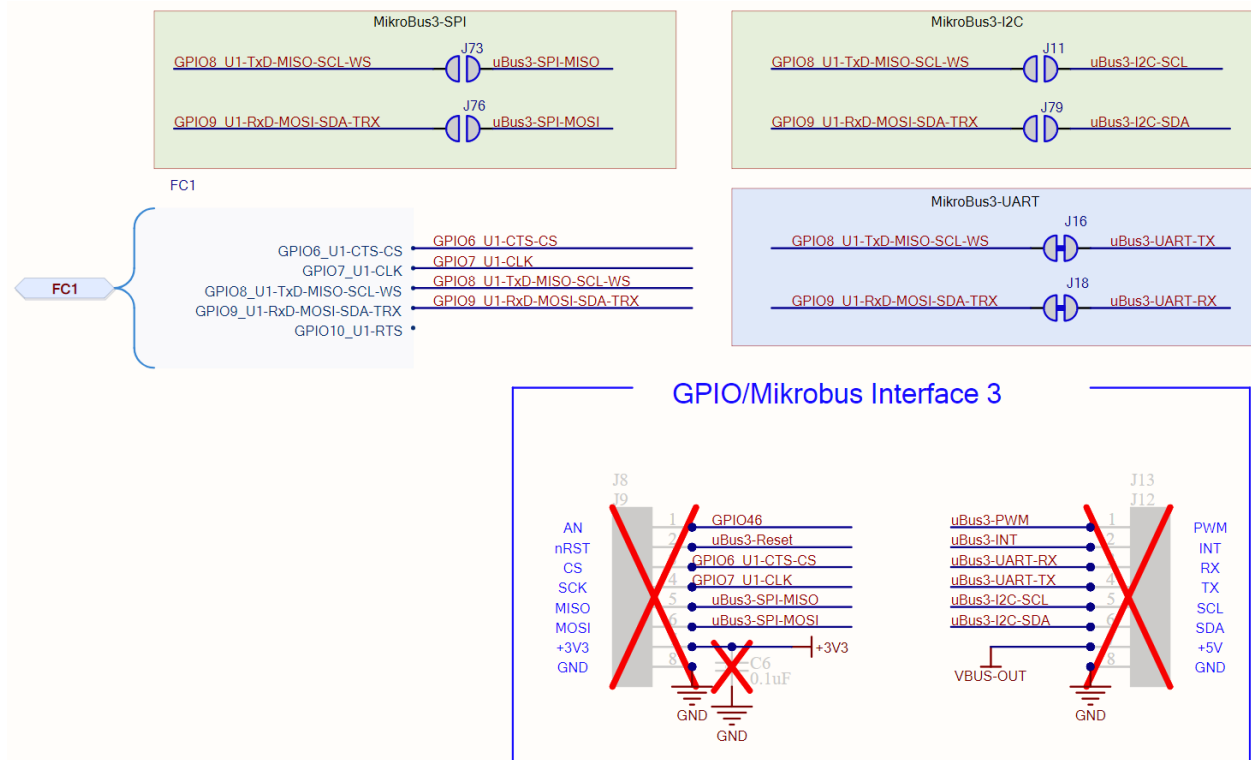

Figure 25: mikroBUS 3 slot signals and jumper configuration
- To enable I2C or SPI, adjust the state of jumpers J73 and J76 for SPI, or J11 and J79 for I2C, as shown in Figure 25. Also, toggle jumpers J16 and J18 to disable UART.
Figure 25 shows the connection of mikroBUS 3 to the Flexcomm 1 interface.